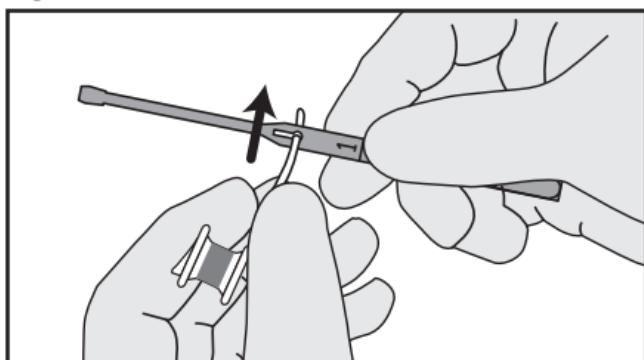
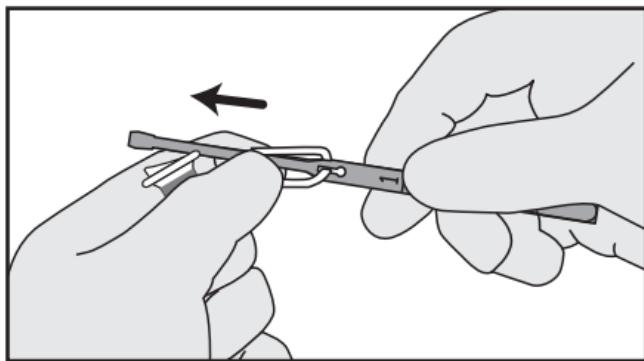

Figure 2
Figure 3
1. Secure the Safety Strap of the prosthesis by threading it into the slit (Fig. 2) of the Inserter Pin. Fixate the safety strap by pulling it into the narrower part of the slit. (Fig. 3). **CAUTION:** Always attach the safety strap of the prosthesis to the Inserter Pin. It could otherwise be lost during insertion causing aspiration or ingestion.